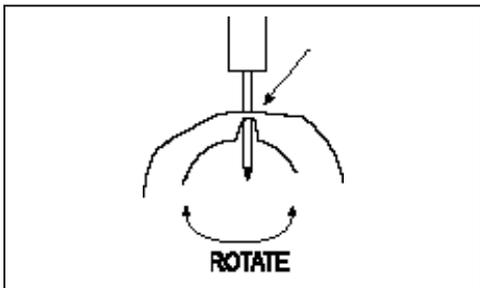

FIG. 43
2. Move shuttle body in or out as necessary to get driver behind needle, and move it left or right to center needle in race cover spring (Figures 43 and 44).